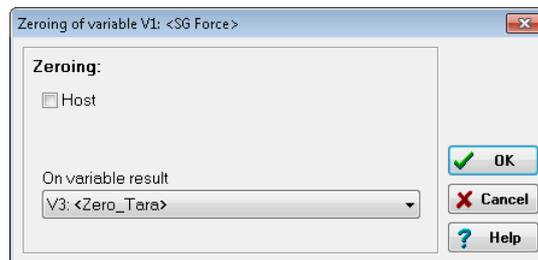

Abb. 5-6 Setting up zero balance or tare.
- Select the variable created above as the control variable (Fig. 5-6).